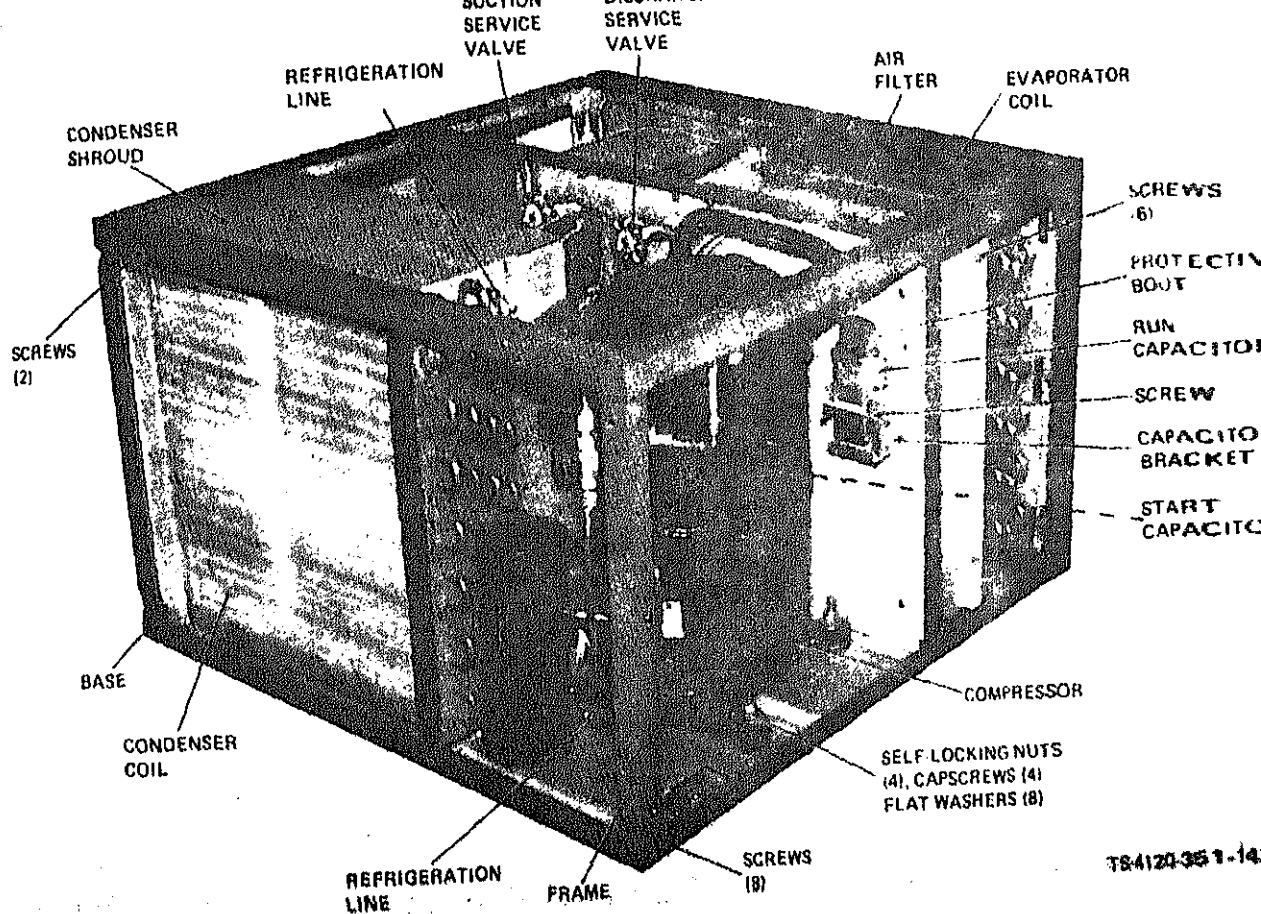

Figure 4-6. Service valves, capacitor, compressor, receiver, and liquid-moisture indicator, removal and installation
(2) Remove protective boot from start capacitor (fig. 4-6).
(3) Tag and disconnect electrical leads from start capacitor.
- (2) Tag and disconnect electrical leads from run capacitor (fig. 4-6).
(2) Scrub the external portion of the evaporator coil (fig. 4-6) with a stiff bristle brush to remove scale and corrosion. Take care not to damage fins. Use compressed air to blow out loose material.